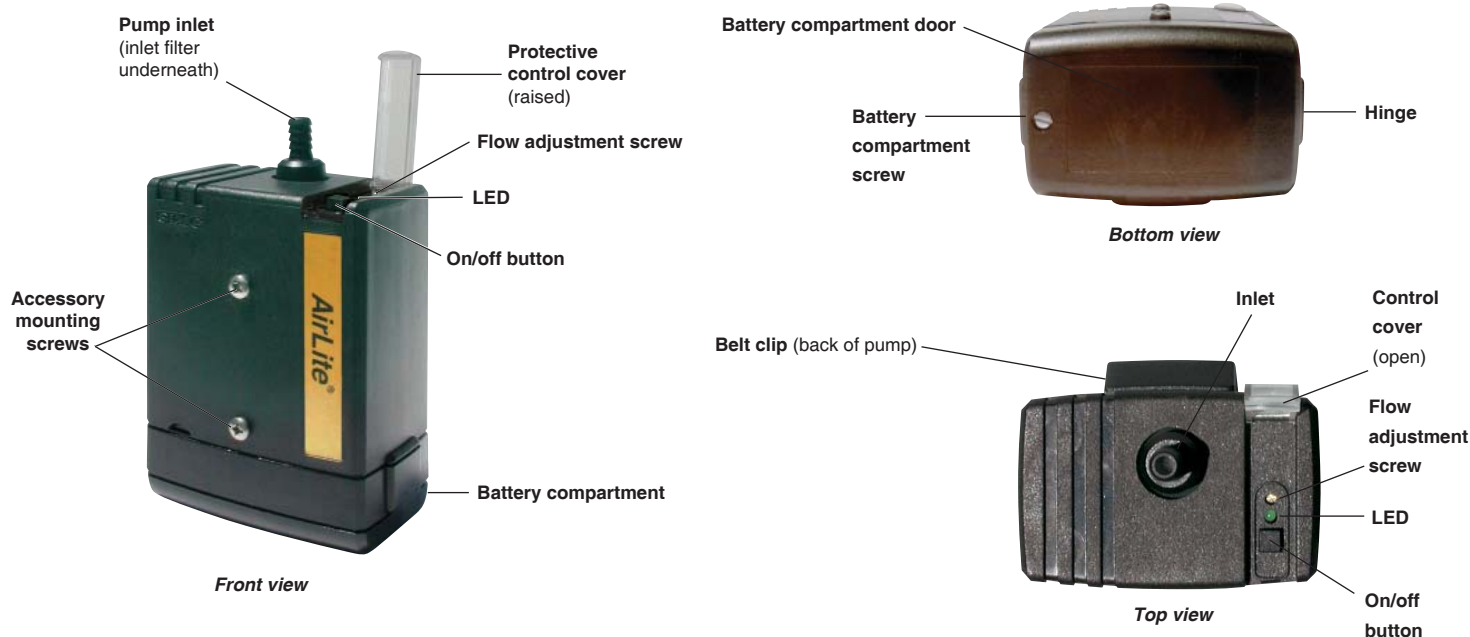

Figure 1. AirLite Sample Pump
The AirLite Sample Pump (Figure 1) provides 5 to 3000 ml/min flows and is suitable for abatement, indoor air sampling, and emergency response in non-hazardous locations.
The AirLite is powered by three standard AA alkaline batteries located in a compartment on the bottom of the pump (Figure 1). To insert new or replace existing batteries:
1. Use a slotted screwdriver to loosen the screw on the bottom of the case (Figure 1).
4. With the new batteries in place, insert the hinge (Figure 1) on the compartment door under the lip of the case, close the door, and tighten the screw until secure.
1. Turn on the pump using the on/off button (*Figure 1*) and run for 5 minutes before calibrating. Leave the pump running.
4. Using a small screwdriver, set the pump flow rate by turning the flow adjustment screw (*Figure 1*) **clockwise** to increase the flow or **counterclockwise** to decrease the flow until the calibrator indicates the method-specified flow rate. Take a minimum of three readings and record the average flow rate, as per OSHA/NIOSH instructions.
1. Turn on the pump using the on/off button (Figure 1) and run for 5 minutes before calibrating. Leave the pump running.
3. Set the pump flow rate to 1.5 L/min. Using a small screwdriver, turn the flow adjustment screw on top of the pump (Figure 1), **clockwise** to increase flow or **counterclockwise** to decrease flow, until the calibrator indicates 1.5 L/min.